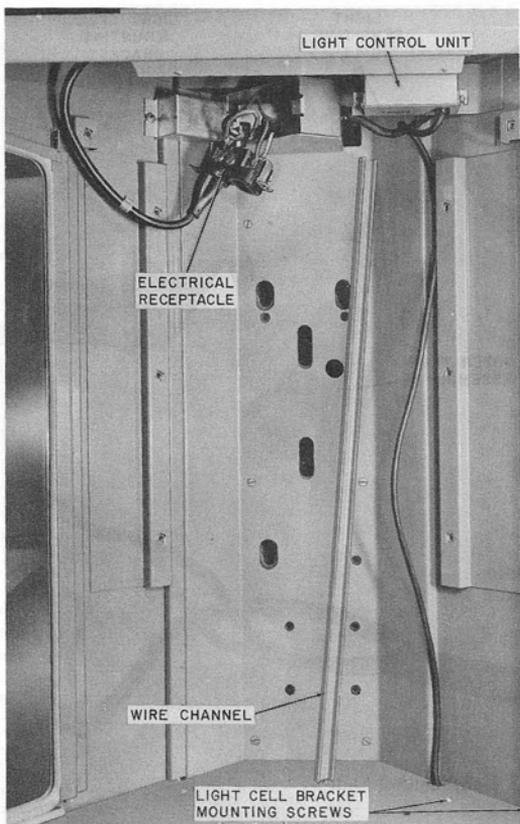

Fig. 18—Installation of List 3 Light Control Unit
- (c) Remove wire channel (Fig. 18) from right side of housing.